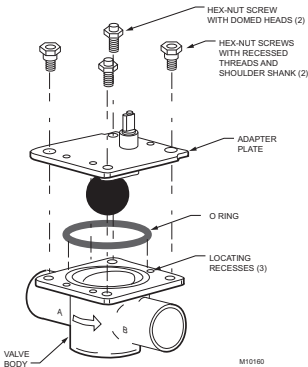

Fig. 3. Install 4003918 conversion kit.
5. Install 40003918 Conversion Kit (See Fig. 3).